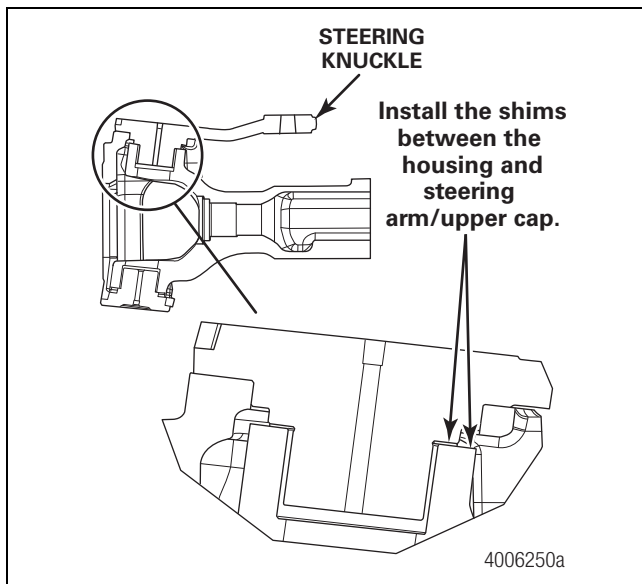

Figure 6.6
- D. Fully release the jack pressure and read the end play on the dial indicator. Correct end play is 0.005-0.015-inch (0.127-0.381 mm). Remove or add shims from between the upper knuckle cap/steering arm and the axle housing to obtain the correct end play. Figure 6.6.